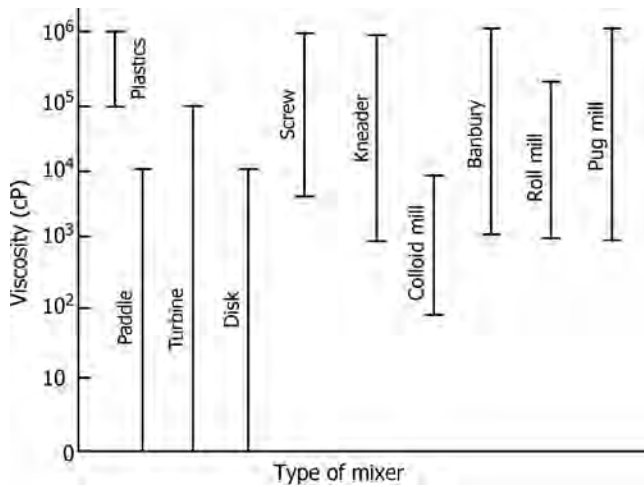

FIGURE 6.21 Viscosity ranges for different types of mixers.
- Figure 6.21 gives a graphical representation of viscosity ranges of materials for different mixing equipment.